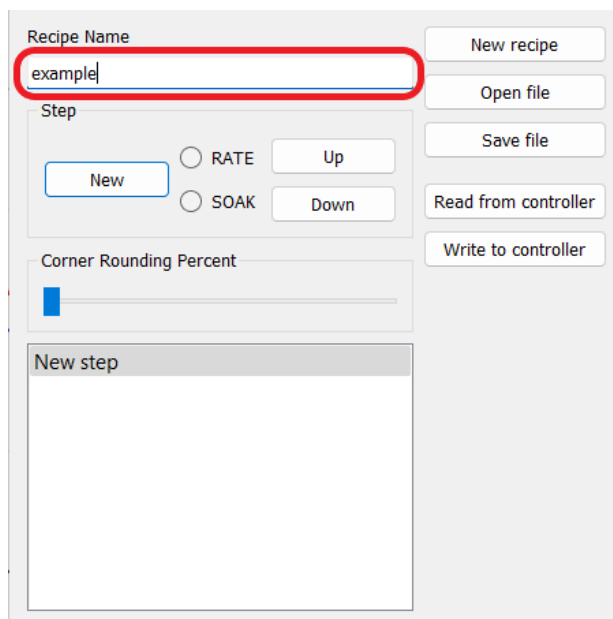

Figure 71: Recipe Editor – 'Recipe Name' Field
2. Name your recipe by entering a name of your choosing in the 'Recipe Name' field highlighted in Figure 71 below. It is best to avoid special characters when creating recipe names such as `~!@\$^\*/\+=` as an example. However, dashes (-) underscores (\_) hashtags (#) and ampersands (&) are okay to use freely.